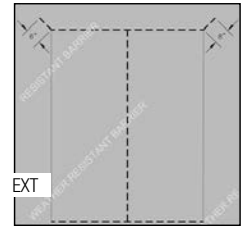

FIG. 2
- Make an "I-Cut" in the weather-resistant barrier (WRB). Begin with a horizontal cut along the bottom and the top of the rough opening. Then make a vertical cut in the center from top to bottom. (Fig. 2)